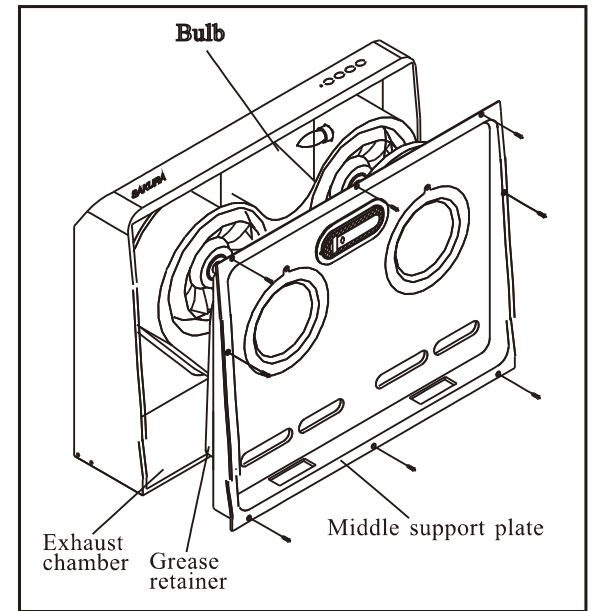

Fig. 10 Remove the middle support plate
7. Loosen the screws on the middle support plate with a philips screwdriver. Remove the middle support plate After wire power supply cord, re-screw the middle support plate up.(Fig.10)